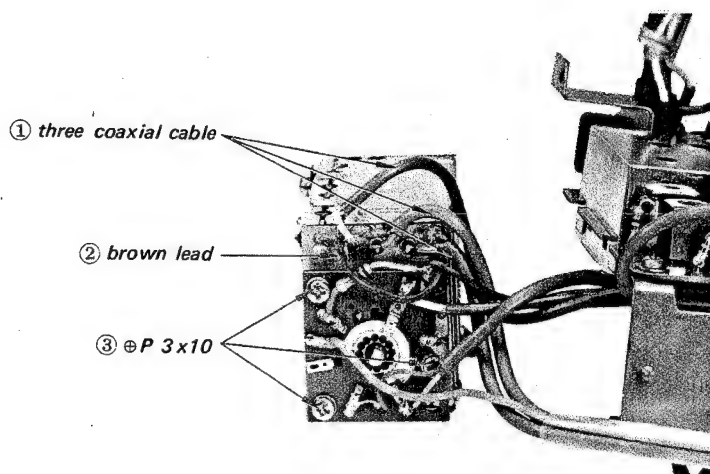

Fig. 16
5. Unsolder the three coaxial cables (① in Fig. 16).
6. Unsolder a brown lead (② in Fig. 16).
7. Remove the three screws (③ in Fig. 16).